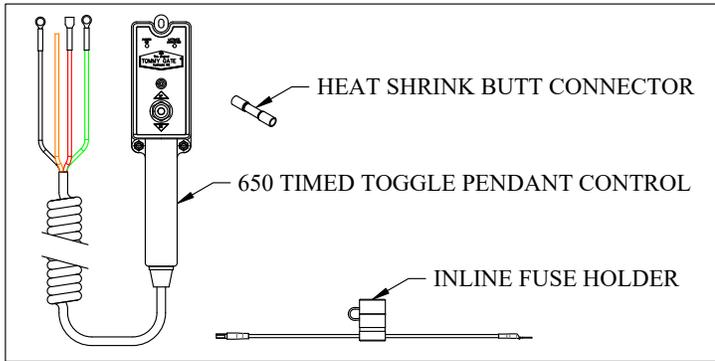

Figure 1: Part Identification.
1. Verify Kit (Figure 1 and Table 1).